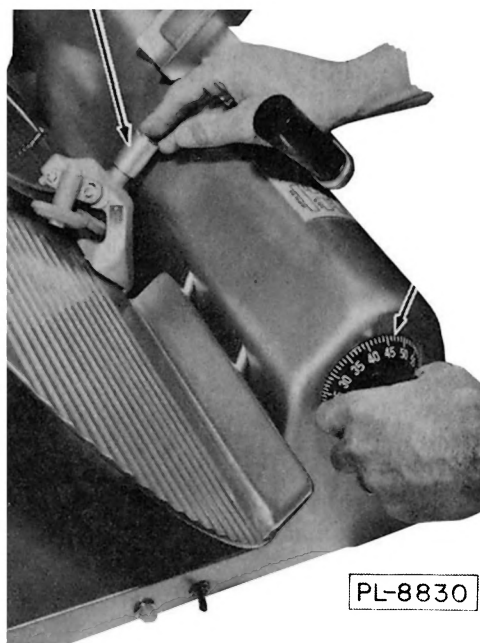

Fig. 7
7.6 Turn the slice adjusting knob (2, Fig. 7) slowly to the right. This will bring the grinding wheel into contact with the beveled side of the knife.
7.8 As soon as burr appears depress truing wheel by pressing on plunger (1, Fig. 7) with right hand as shown. Grind and true simultaneously for approximately 3 seconds.